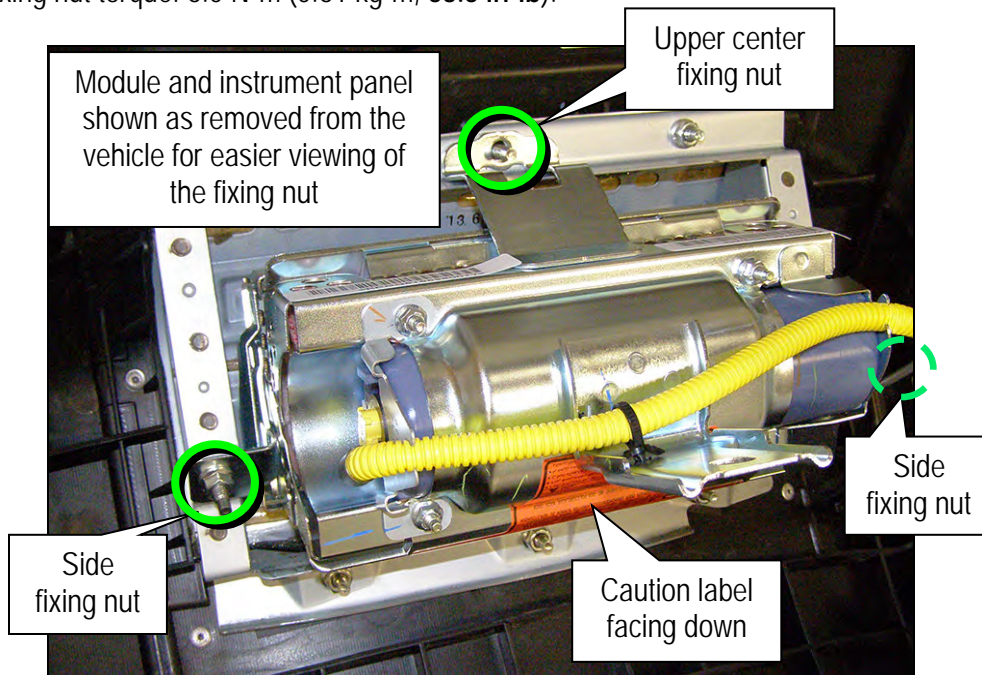

Figure 15
10. Install the new front passenger air bag module (Figure 15, Figure 16, and Figure 17).
- a. Using the three (3) new fixing nuts supplied with the replacement air bag module, secure the front passenger airbag module mounting brackets to the supports on the back of the instrument panel.